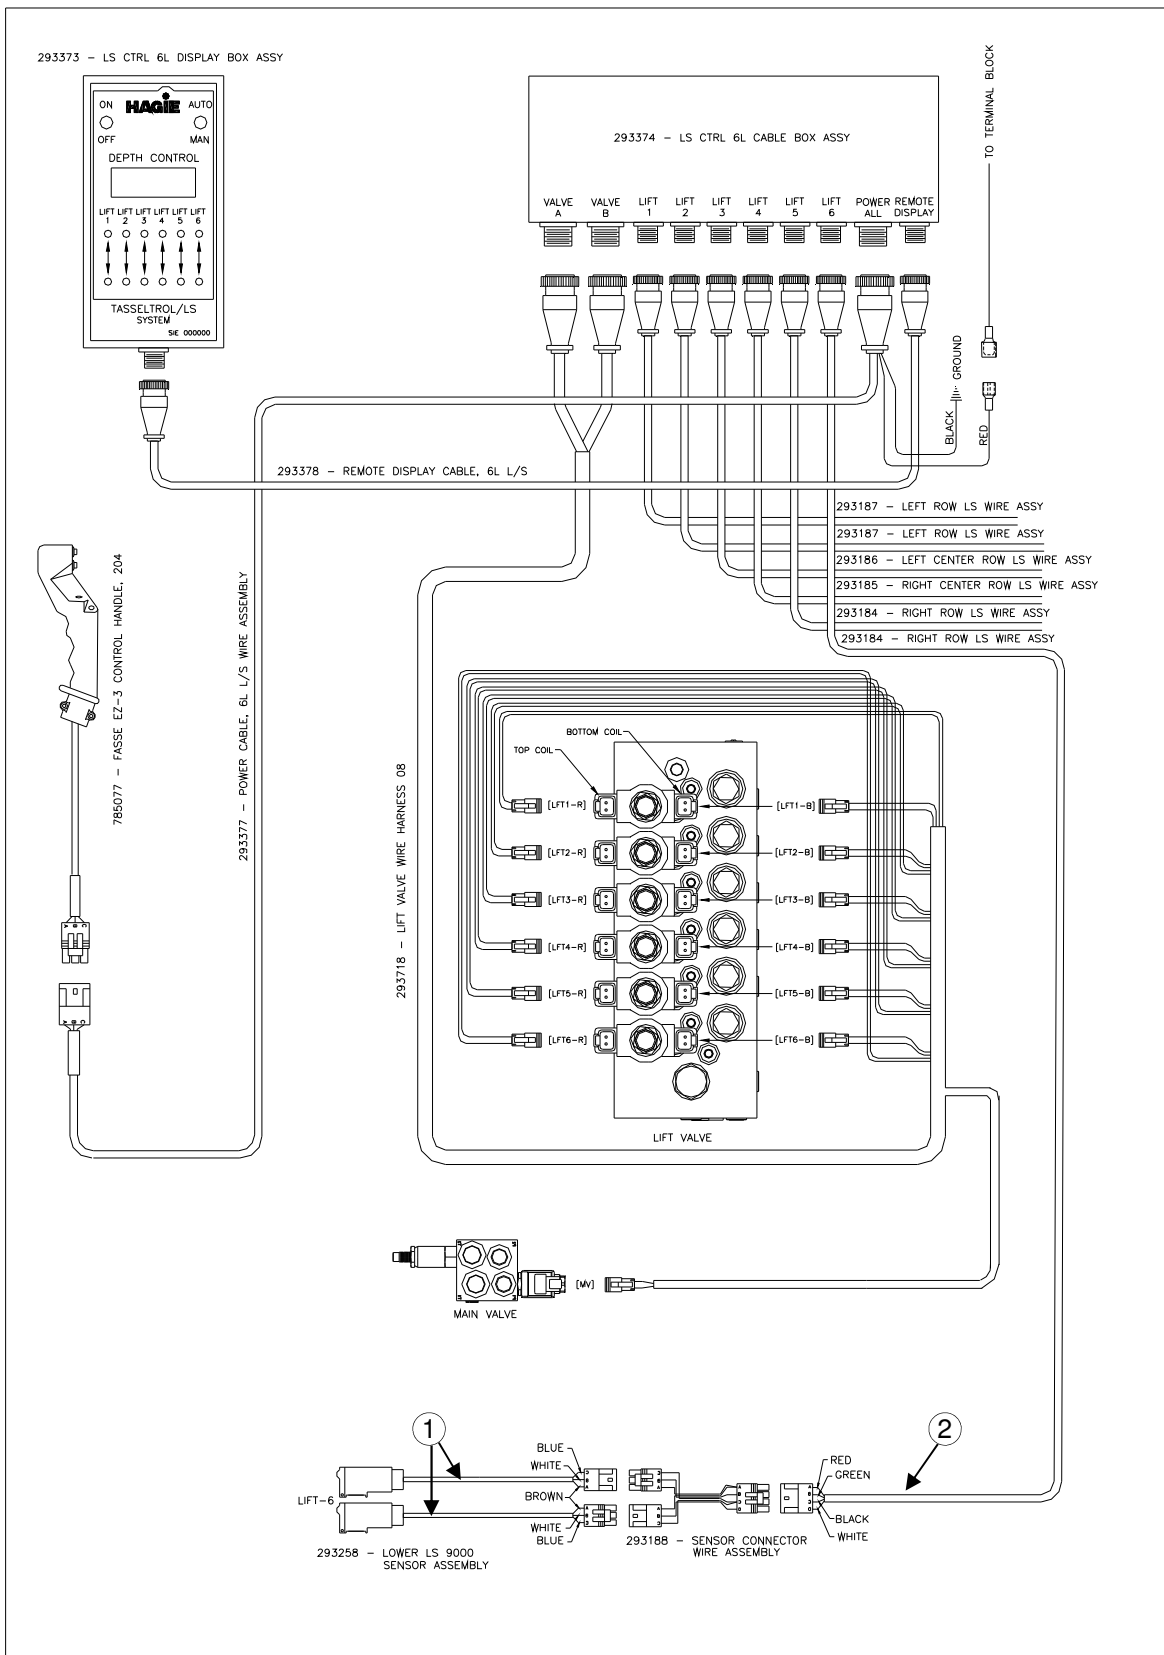

FIG 151.1
| No lights at either photo sensor | Faulty connector cable (See page 151, fig. 151-1, item 2)Faulty RED and/or BLACK wire in connector cable (See page 151, fig. 151-1, item 1) |
| Lights at lower photo sensor    | <p>Faulty GREEN wire in connector cable (See page 151 fig. 151-1, item 2)</p> <p>Photo sensor not in line with reflector , call Hagie Manufacturing Customer Support.</p> <p>Faulty BLUE wire in sensor assembly (See page 151, fig. 151-1, item 1)</p> |
| No lights at lower photo sensor | <p>Faulty RED and/or BLACK wire in connector cable (See page 151, fig. 151-1, item 2)</p>   |
| Lights at upper photo sensor    | Faulty WHITE wire in sensor assembly (See page 151, fig. 151-1, item 1)Faulty BLUE wire in sensor assembly (See page 151, fig. 151-1, item 1) |
| No lights at upper photo sensor | Faulty RED and/or BLACK wire in connector cable (See page 151, fig. 151-1, item 2)  |